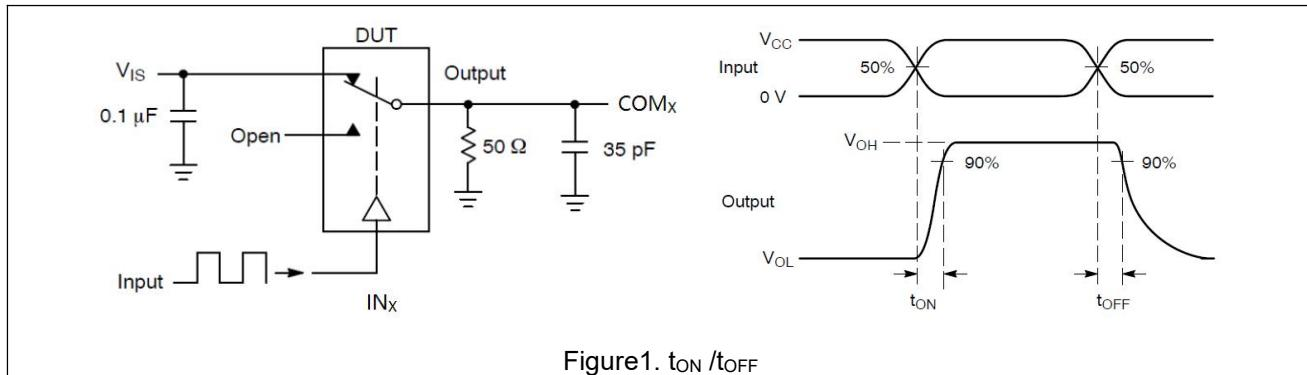

Figure1. tON /tOFF
| $t_{ON}$  | Turn-On Time (2)(Figure 1)                                       | $V_{IS}=0.5V$ ,$V_{CC}=2.5\sim3.3V$   |                  | 35   | 55  |                         |     | ns   |
| $t_{OFF}$ | Turn-Off Time (2)(Figure 1)                                      | $V_{IS}=0.5V$ ,$V_{CC}=2.5\sim3.3V$   |                  | 26   | 50  |                         |     | ns   |